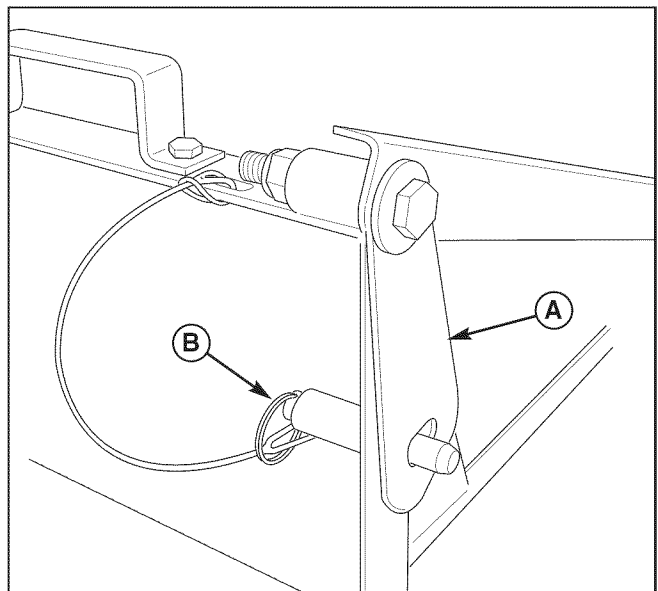

Figure 44. Lock Hood
2. Lower the hood and push the lock pin (B, Figure 44) through the hood lock plate (A).